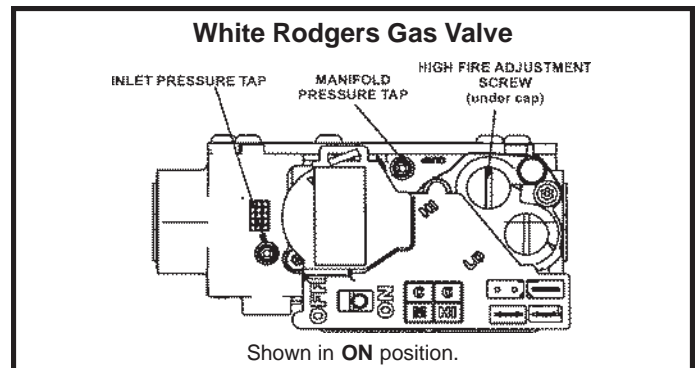
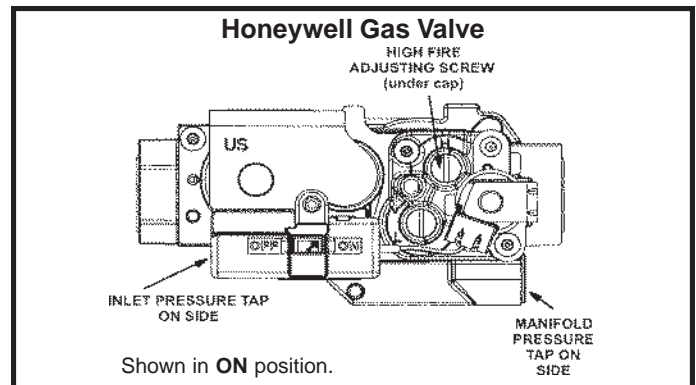

Figure 27
Figure 28
#### Gas Valve Operation (Figures 27 and 28)
6. Move gas valve switch to **OFF** position. Do **not** force. See Figure 27 or 28.
7. Wait five (5) minutes to clear out any gas. If you then smell gas, **STOP!** Immediately call your gas supplier from a neighbor's phone. Follow the gas supplier's instructions. If you do not smell gas go to next step.
8. Move gas valve switch to **ON** position. Do **not** force. See Figures 27 or 28.
4. Move gas valve switch to **OFF** position. Do **not** force. See Figure 27 or 28.
An inlet post located on the gas valve provides access to the supply pressure. See Figure 27. Back out the 3/32 hex screw one turn, connect a piece of 5/16 tubing and connect to a manometer to measure supply pressure. See Table 22 for supply line pressure. Tighten hex screw after measurements have been taken.
1. Connect test gauge to manifold pressure post tap (Figure 27) or tap (Figure 28) on gas valve.
4. If necessary, make adjustments. Figures 27 and 28 show location of high fire adjustment screw.